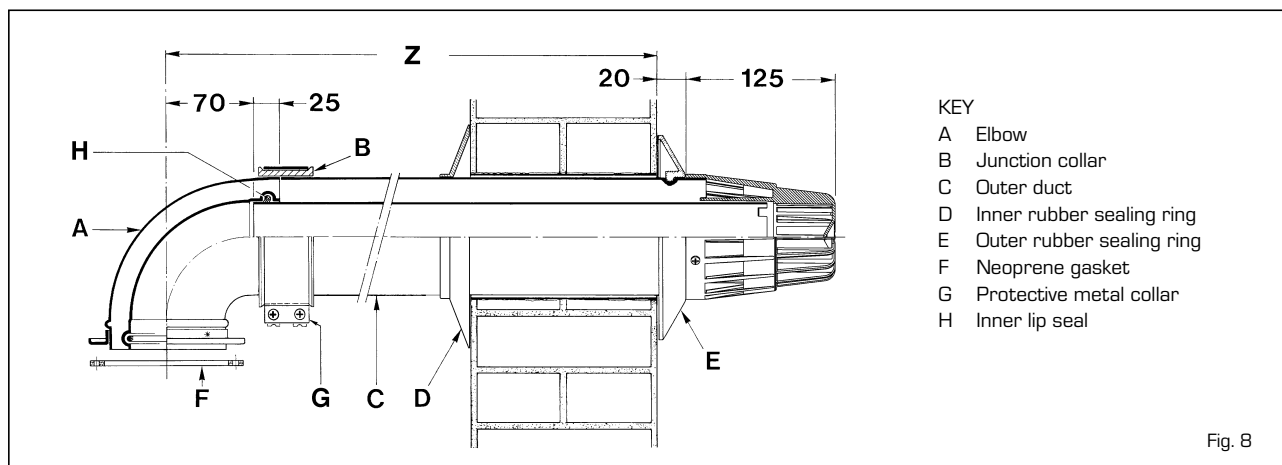

Fig. 8
- Fit the rubber sealing ring into the swaged groove in the duct as shown in fig. 8. Ensure that it is the correct way around and spray the outside surface with talcum powder or soap solution to reduce friction.
- Fit the rubber sealing ring into the swaged groove in the air duct as shown in fig. 8. Ensure that it is the correct way around.
- With reference to fig. 8, slide on the rubber ring (D), check that the rubber sealing ring (E) is pulled up to the wall and that the duct assembly is horizontal.
- Push the junction collar (B) over the air duct until the air duct touches the inner part of the collar where the diameter becomes smaller.
- Fit the protective metal collar (G) over the junction collar.
- Place the gasket (F) under the flange of the elbow and fit the elbow onto the air smoke manifold, taking care to ensure that the silicon seal on the elbow correctly engages and forms a seal at its joint with the manifold.